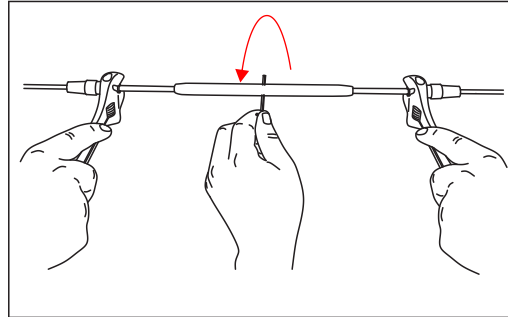

Fig. 12
8. Hold the long screw ends with two wrenches to prevent them from turning (Fig.12).